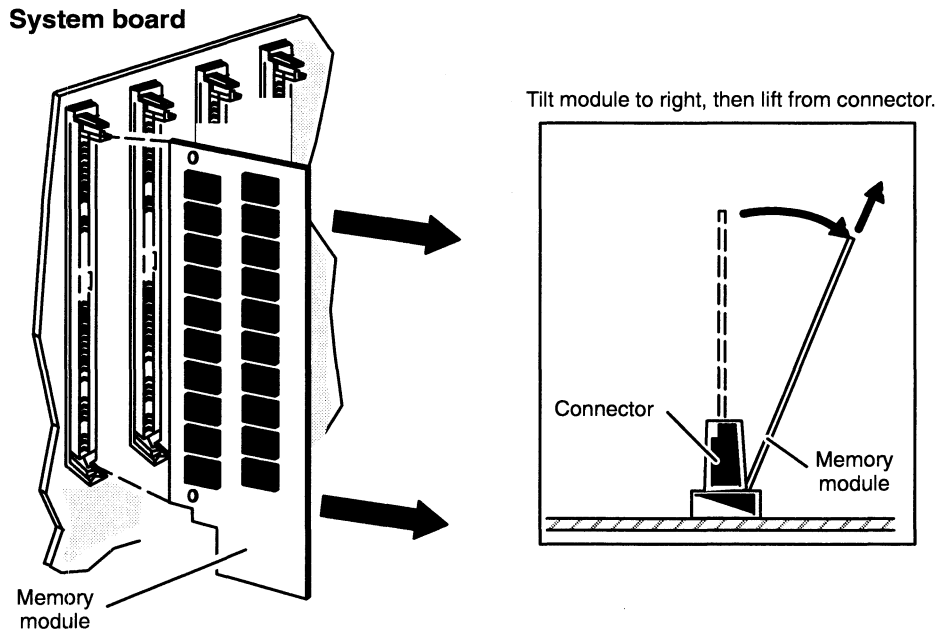

Figure 8-5 Removing a Memory Module
2. With the locking tabs released, raise the memory module to about a 20°—30° angle as shown in Figure 8-5, then *gently* pull the module from its connector.